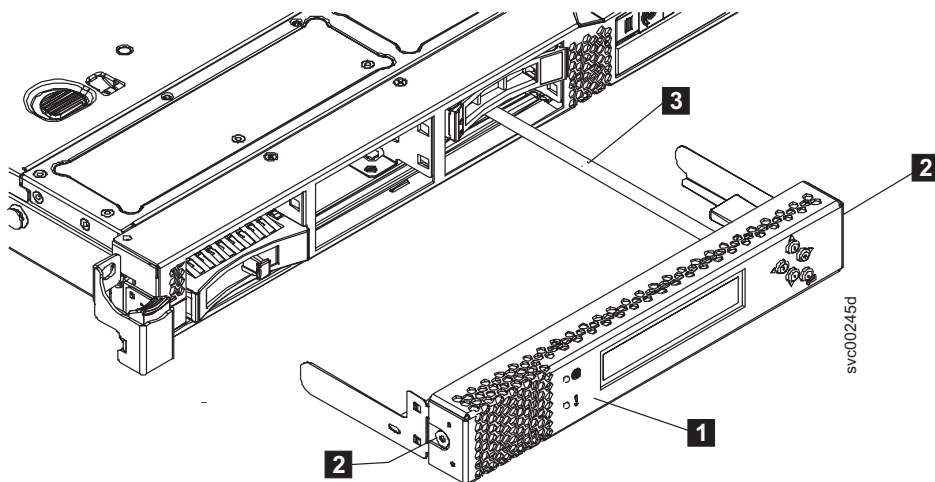

Figure 110. Service controller with attached USB cable (SAN Volume Controller 2145-CF8 shown)
5. If the service controller ( **1** in Figure 110) is in place, press the release buttons ( **2** ) on each side of the service controller assembly to release the service controller from the node, but do not disconnect the USB service controller cable. Slide the service controller from the node and support it somewhere, if possible, or gently suspend the service controller from the service controller cable.